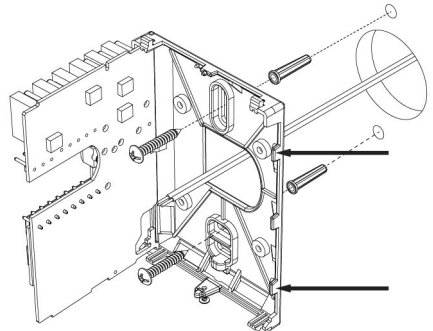

Fig. 2
1. Swing open the Terminal Equipment Controller PCB to the left by pressing the PCB locking tabs (fig. 2).
7. Insert screws in mounting holes on each side of the base (fig. 2).